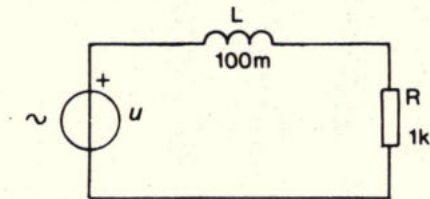

Fig. 27.
7. In de schakeling van fig. 27 is $u = 30 \sin \omega t$ (u in V, t in s) en $\omega = 10^4 \cdot 1/3 \cdot \sqrt{3} \text{ rad/s}$.